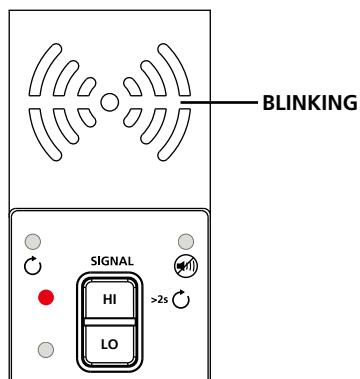

Figure 3.1c: Transmitter indicator showing signal in HIGH mode
3. Select HIGH signal mode by pressing HI for most applications. The Transmitter will appear as shown in Figure 3.1c. The LED display will quickly begin to blink.